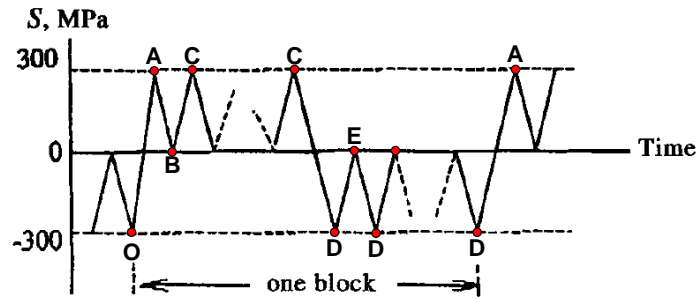

Figure 5 – Block of stress history
find the notch stress σ_A and strain ε_A at point A (see Figure 5).
find the notch stress $\sigma_B = \sigma_A - \Delta\sigma$ and strain $\varepsilon_B = \varepsilon_A - \Delta\varepsilon$ at point B (see Figure 5).
find the notch stress $\sigma_D = \sigma_C - \Delta\sigma$ and strain $\varepsilon_D = \varepsilon_C - \Delta\varepsilon$ at point D (see Figure 5).
1. Explain why the notch stress range $\Delta\sigma$ and the notch strain range $\Delta\varepsilon$ in load segment 3 are the same as in load segment 1 (see Figure 5).